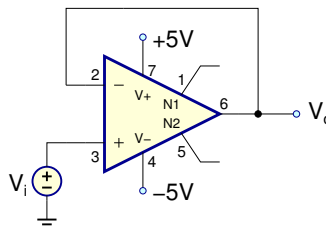

Figure 6: Unity-gain buffer configuration
1. For the unity-gain buffer in Fig. 6, find the transfer function $V_o/V_i(s)$, and sketch the magnitude Bode plot.
1. Draw the schematics for the unity-gain buffer in Fig. 6 with a load of $2.2k\Omega$ in parallel with $100pF$ at the output.
1. Build the unity-gain buffer in Fig. 6 with a load of $2.2k\Omega$ in parallel with $100pF$ at the output.
6. For the unity-gain buffer in Fig. 6: